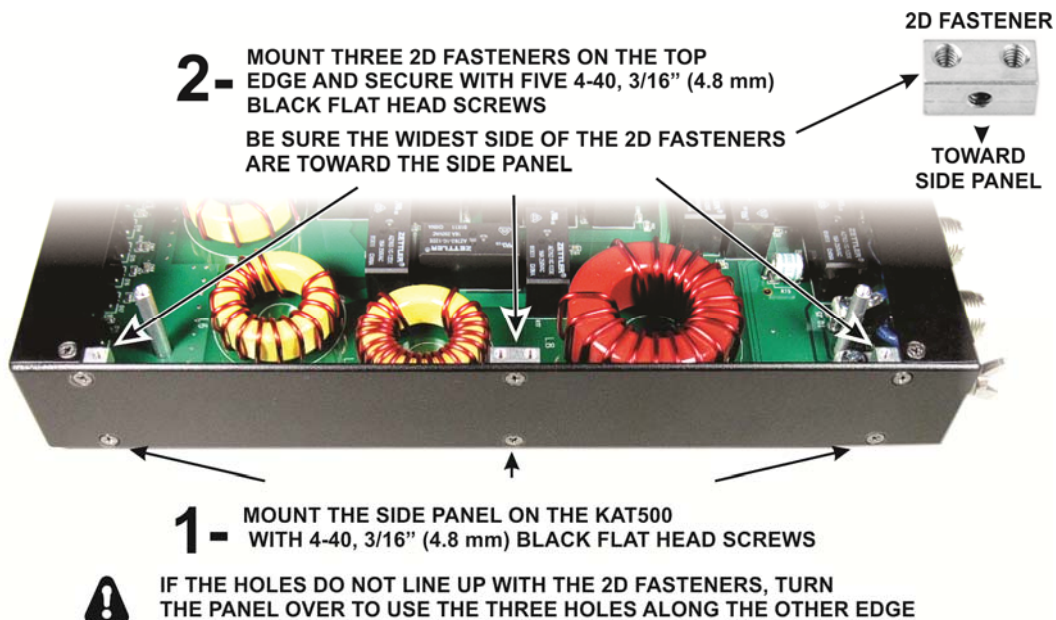

Figure 32. Installing the Side Panels.
Place a side panel on the KAT500, lining up the three holes along the bottom with the 2D fasteners between the pc board and the bottom cover. Be sure all three holes line up. If they do not line up, turn the side panel over to line up the other three holes. Attach the side panel with three screws as shown in Figure 32 (1).
Mount three 2D fasteners along the top edge of the side pane as shown in Figure 32 (2). Be sure the widest side is toward the side panel as shown. You may need to loosen the screws along the bottom edge to allow the panel to move to properly align the holes.